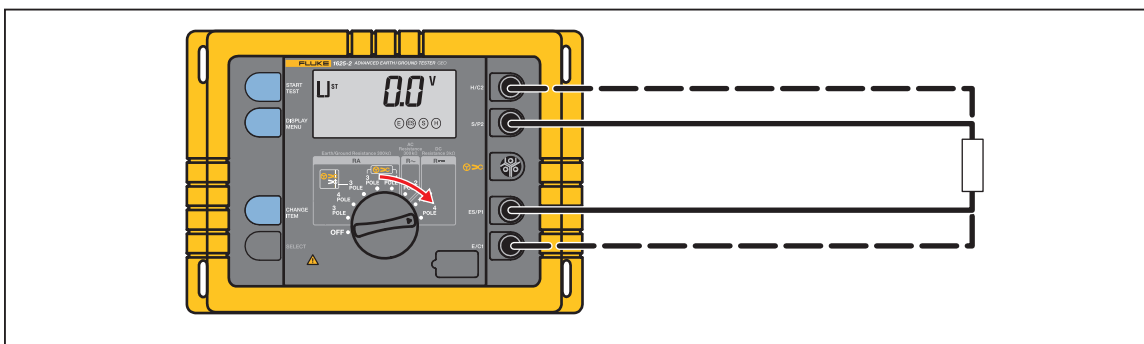

Figure 13. Resistance Measurement ($R_{\square}$)
1. Connect instrument as shown in Figure 13.